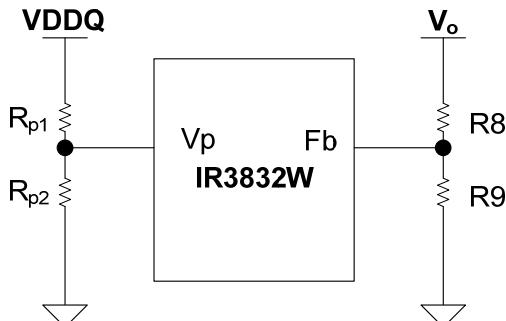

Fig. 10. Typical application of the IR3832W for programming the output voltage
When an external resistor divider is connected to the output as shown in figure 10. Equation (5) can be rewritten as: